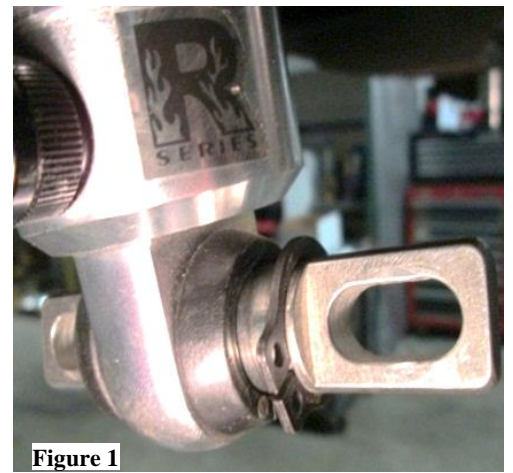

Figure 1
8. Remove the snap rings from the T-bar and press the T-bar out of the shock eyelet. See **Figure 1**.